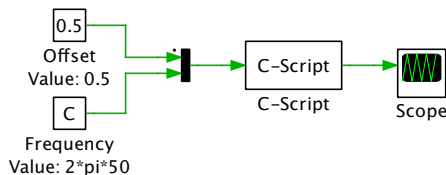

Figure 3: Implementing the function $y = 0.5 + \sin(2\pi 50 \cdot t)$ with the C-Script block.
- 1 Create a new simulation model, and place a C-Script component and two Constant source blocks into it. Label the first Constant block “Offset” and set its value to 0.5. Label the second Constant block “Frequency” and set its value to $2\pi \cdot 50$. Use a Signal Multiplexer block to route the two constant values into the C-Script block. Your simulation model should look like that shown in Fig. 3.